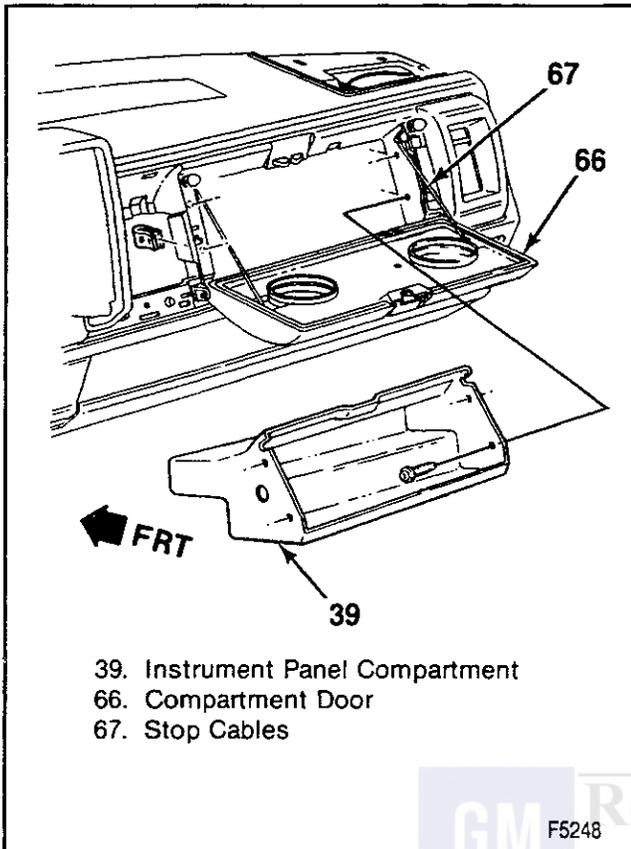

Figure 3—Instrument Panel Compartment
- Pry out the stop cable retainer for the compartment door (figure 3).
24. Pod and trim (figure 3).
25. Lower trim panels (figure 3).